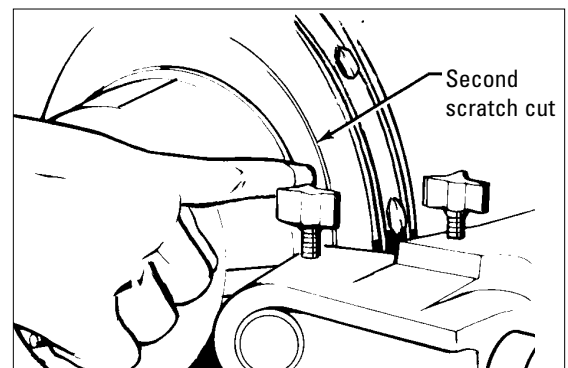

Figure 26 - Second scratch cut
**11.** Check rotor mounting by loosening the arbor nut and turning the rotor 180° by hand on the arbor. Make sure the inside adapter does not rotate along with the rotor. Then retighten the arbor nut, turn the cross feed handwheel back 1/2 turn, turn the lathe ON, and repeat step 10 to make a second scratch cut (figure 26).